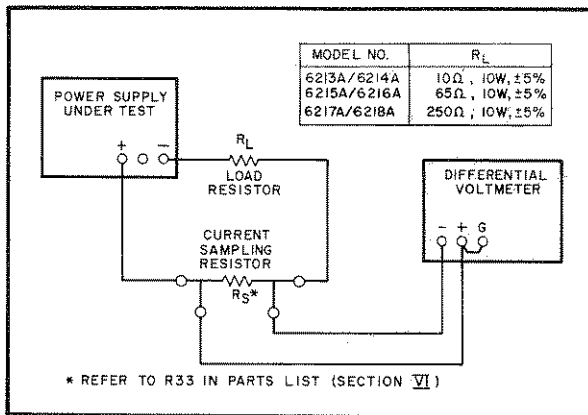

Figure 5-4. Output Current, Test Setup
- a. Connect load resistor ( $R_L$ ) indicated in Figure 5-4 across the output terminals of supply.
- a. Connect test setup shown in Figure 5-4.